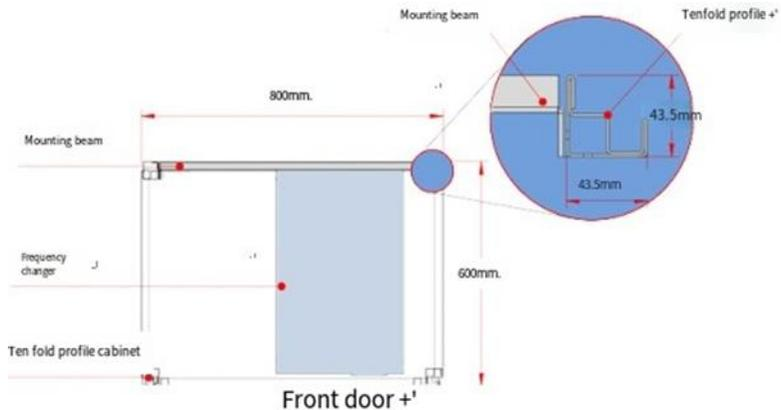

Figure 4-6 Top view of FD500 55 to 500kW models in cabinet
- a. It is recommended that the cabinet body use a nine-fold profile cabinet (PS cabinet). The section of the nine-fold profile cross section is shown in Figure 4-6.